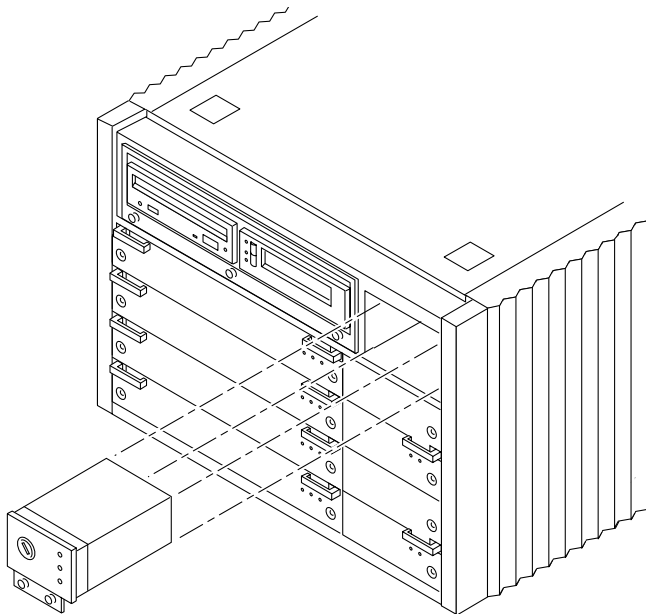

FIGURE E-16 Replacing the Key Switch/LED Tray Assembly in the Enterprise 4500 System
- 6. Gently pull the key switch assembly from the enclosure (FIGURE E-16).**
Viewed from the front of the system, the key switch assembly is on the right side of the enclosure (FIGURE E-16).